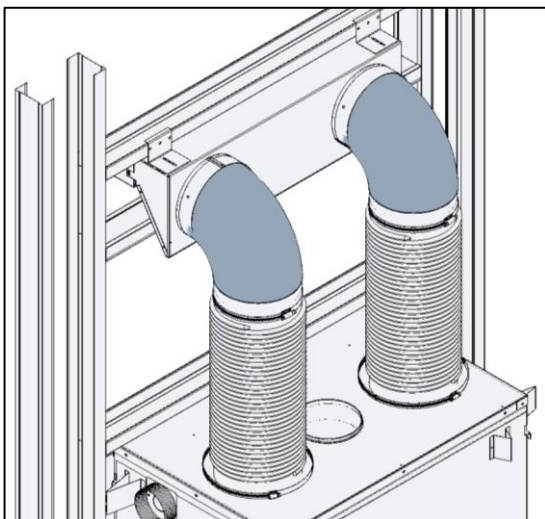

Figure 3-31: Installation of 90 ° Elbows onto Linear Duct/Louver Adapter
8. Connect the elbows to the linear duct/louver adapter and secure them with sheet metal screws (Figure 3-31).